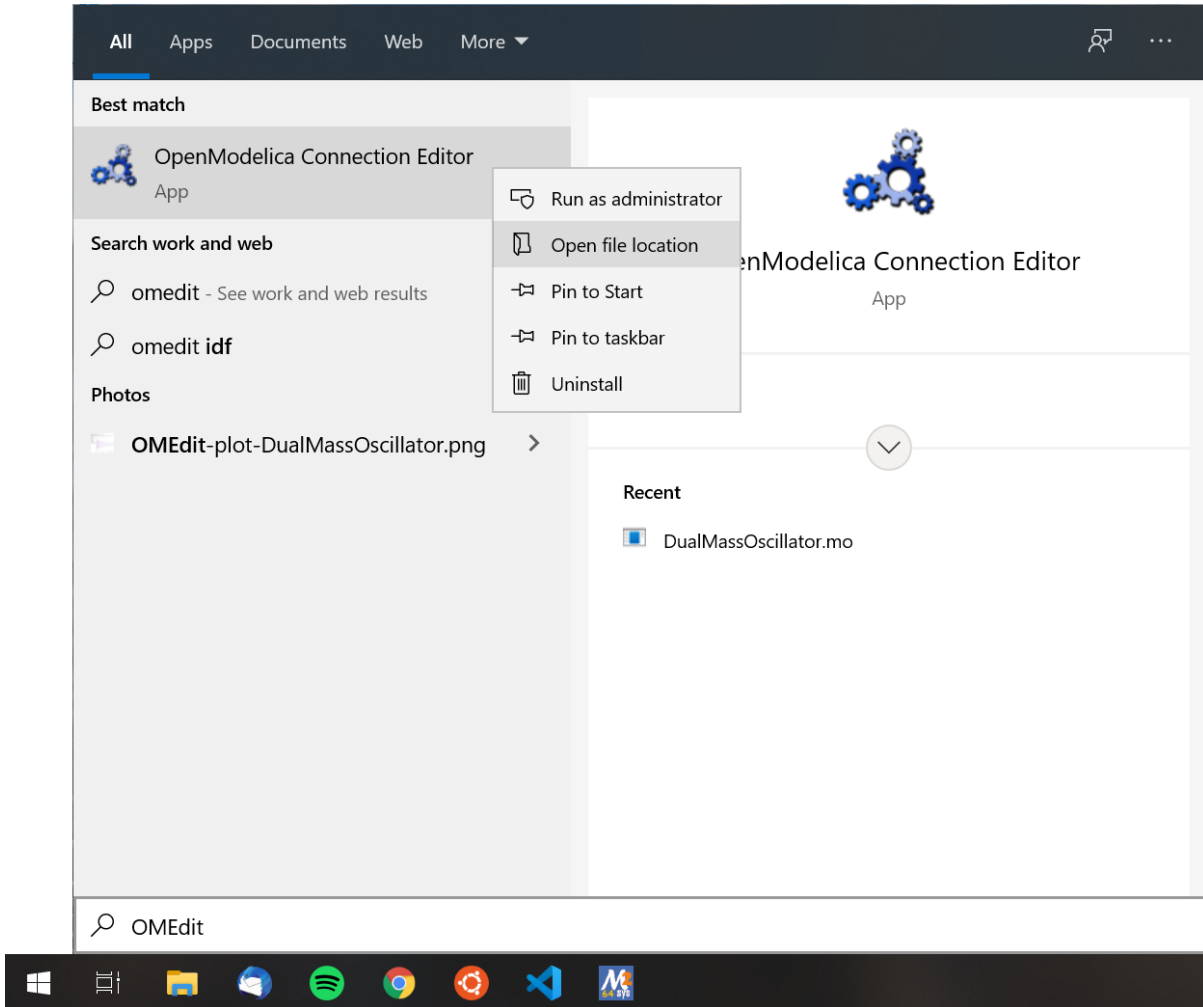

Figure 2.22: Open file location of OpenModelica Connection Editor
1. Press *Windows-Key* and type *OpenModelica Connection Editor* and right-click on the app and *Open file location*, Figure 2.22.